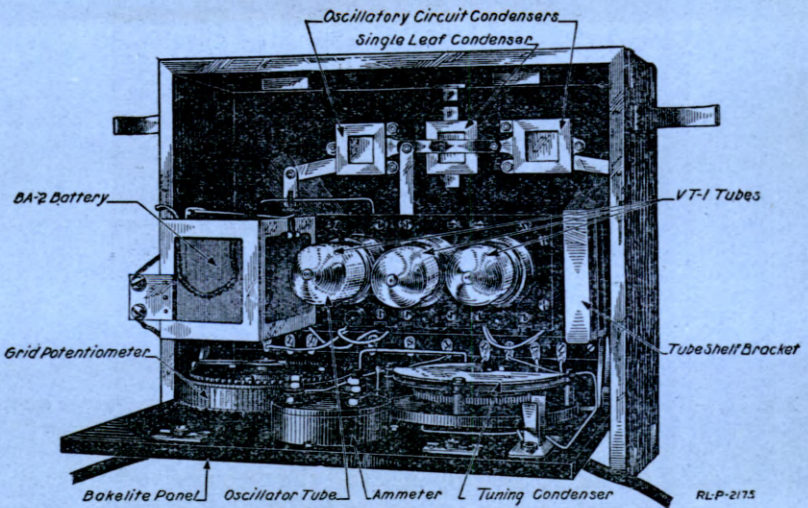

Fig. 100.—Front panel of set box, BC-9, lowered to show interior parts.
*e.* Let down the front cover of the set box all the way and open the panel. (See Fig. 100.) Place a BA-2 battery in the compartment attached to the panel and connect the leads from this battery to the two binding posts on the side of the compartment with the polarity as marked. Place two VT-1 tubes in the two amplifier tube sockets.